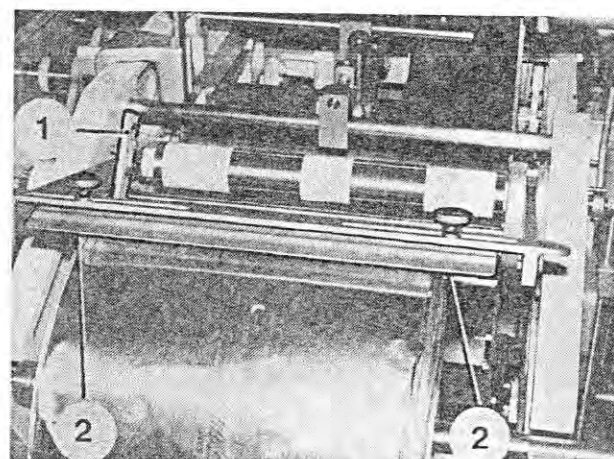

Fig. 97
11. Loosen the latch (Figure 97/1). Place the brake bow on the wrapper roll and center the wrapper roll with regard to the stops (Figure 97/2).